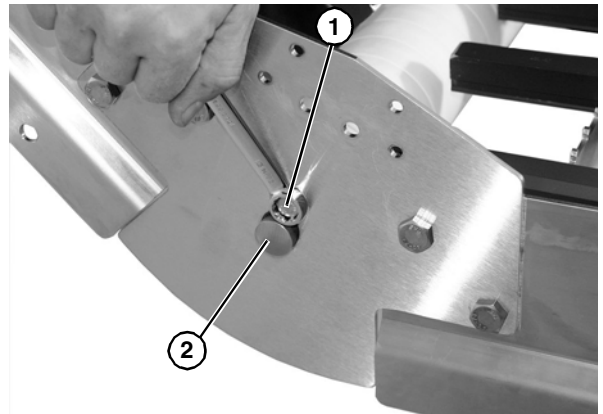

Figure 56
4. Remove cap screw (Figure 56, item 1) for lower knuckle shaft assembly (Figure 56, item 2).